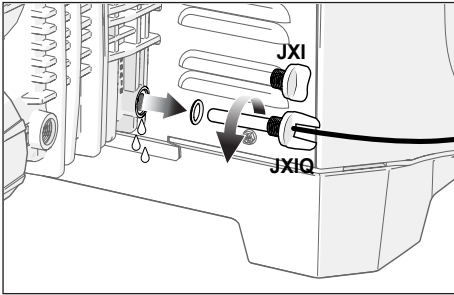

Figure 2. Drain Header
- (Optional) The water can be drained from the heater by removing the drain plug (drain plug & outer temp sensor on JXiQ models) at the header. See *Figure 2*.